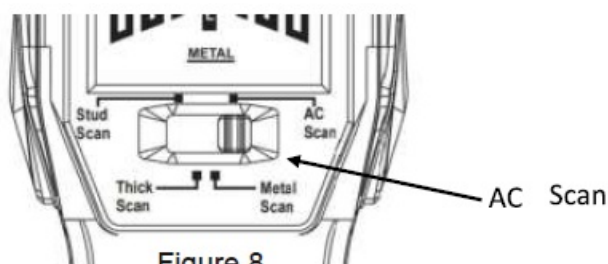

Figure 8
1. Select detecting mode, move the switch to AC Scan (Figure 8)